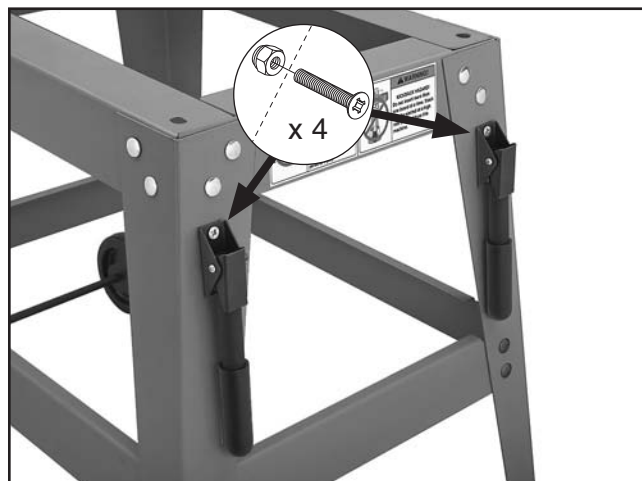

Figure 10. Lifting handle assemblies attached.
7. Attach the lifting handle assemblies on the front legs with (4) M6-1 x 10 flat head screws and M6-1 lock nuts, as shown in **Figure 10**.